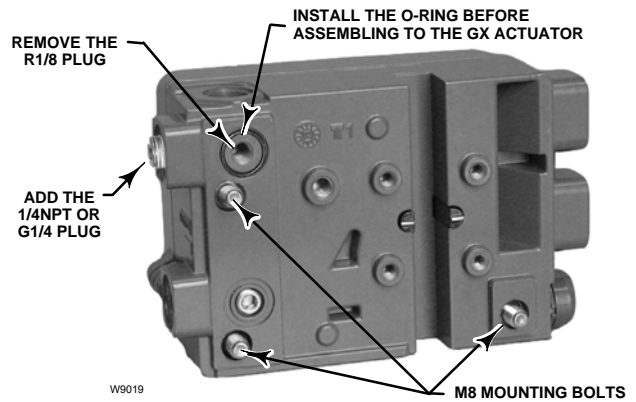

Figure 2-12. Modifications for Fisher GX Actuator – Air-to-Open Construction Only
6. Remove the top plug (R1/8) from the back of the DVC2000 housing. This pneumatic output port on the DVC2000 lines up with the integral GX actuator pneumatic port. See figure 2-12.
- To convert to fail-closed, remove the R1/8 pneumatic plug on the back of the DVC2000 housing and install an O-ring. Plug the external pneumatic output with a 1/4 NPT or G1/4 plug (depending on the housing version). Refer to figure 2-12.